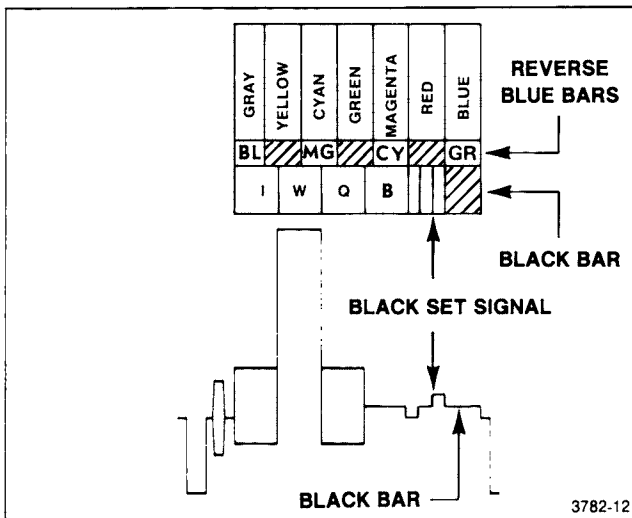

Fig. 2-3. The SMPTE -I,W,Q,B signal with Black Set.
- t. CHECK—luminance levels of the SMPTE, —I,W,Q,B EIA white and Black Set signals as indicated in Table 2-8 (see Fig. 2-3).